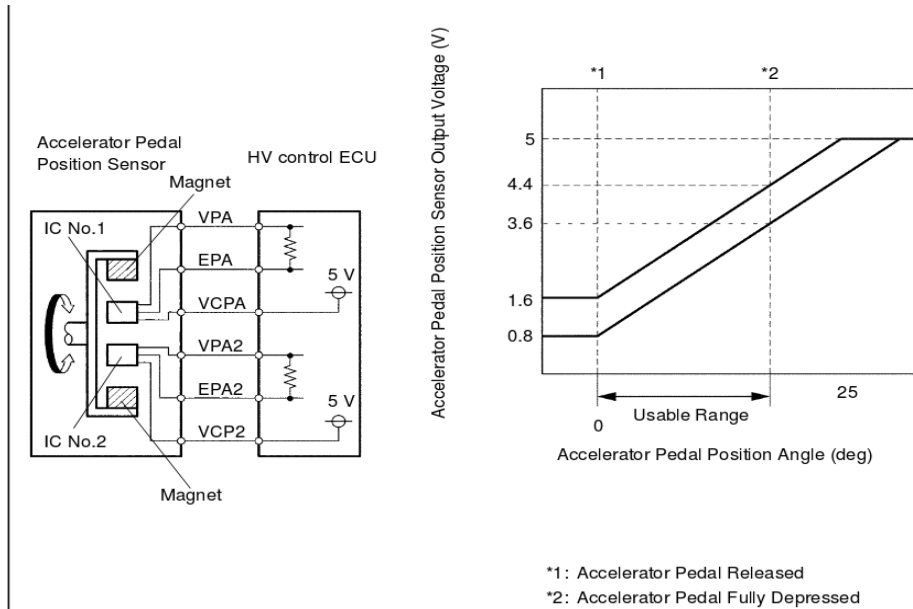

Figure 7-1 Torque encoder functional description
The torque encoder used is originally from Toyota Prius and has two hall-effect position sensors, and produces two outputs. Basic info about the torque encoder is shown in Table 7.1., the encoder diagram and output voltage mapping is shown in Figure 7-1. The torque encoder signal is sent to the VCU to perform plausibility check. From VCU it is sent to motor controller. The signal is not amplified (the requested torque can be only lowered) before being sent to the motor controller.
4. VCU maps analog values to the throttle position ($0.8V/1.6V = 0\%$ throttle, $3.6V/4.4V = 100\%$ throttle), the mapping is shown in Figure 7-1